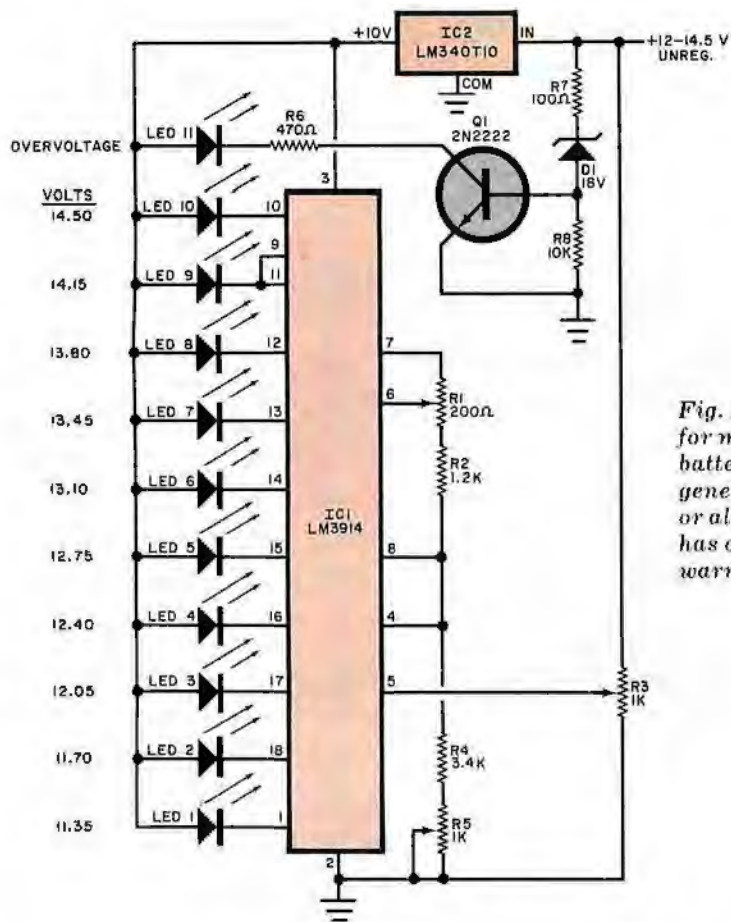

Fig. 1. Circuit for monitoring battery, generator or alternator has overvoltage warning feature.
Voltage Monitor. The circuit shown in Fig. 1 employs 11 LEDs to display battery and alternator/generator charging voltage. The display indicates battery failure, operating status of the generator/alternator charging system, and bat-
PARTS LIST (Fig. 1)
- R6, R7, R8, D1, LED11, Q1—Same as Fig. 1